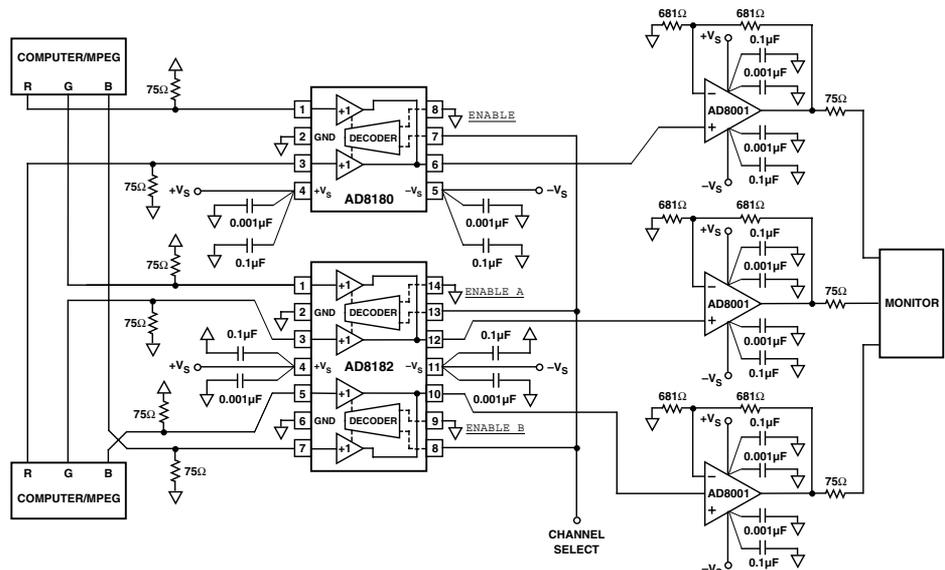

Figure 3. Switching two color video channels.
**Multiplexing two Video Sources:** A common video application requires two RGB sources to be multiplexed together before the selected signal is applied to a monitor (e.g., a PC's normal output and a specialized source, such as MPEG video). Figure 3 shows how such a circuit could be realized using the AD8180 and AD8182.
**Picture-in-Picture or Pixel Switching:** Many high-end display systems require simultaneous display of two video pictures on one screen. Video conferencing is one such example. The remote site might be displayed as the main picture with a picture of the local site "inset" for monitoring purposes. The circuit of Figure 3 could be used to implement this "picture-in-picture" application.
The video source selector of Figure 3 could also be implemented with three AD8170 buffered multiplexers. Since this device has high output drive current and is capable of delivering  $\pm 3.8 \text{ V}$  into a  $150\text{-}\Omega$  load, it doesn't require an external high current buffer op amp. In addition, the inverting input of the output buffer is pinned out so that a closed loop gain of 2 can be set.